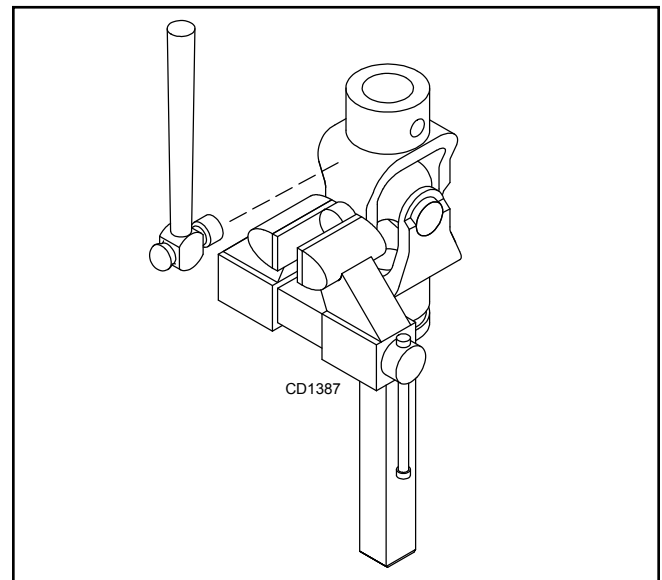

Figure 19.
3. Clamp cup in vise as shown in Figure 19 and tap on yoke to completely remove cup from yoke. Repeat Step 2 & Step 3 for opposite cup.